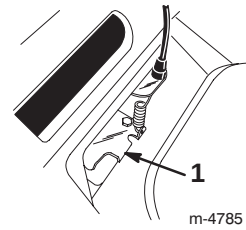

Figure 23
5. Push the belt guide tab down until it contacts the lawn mower, then hold it in place (Fig. 23).